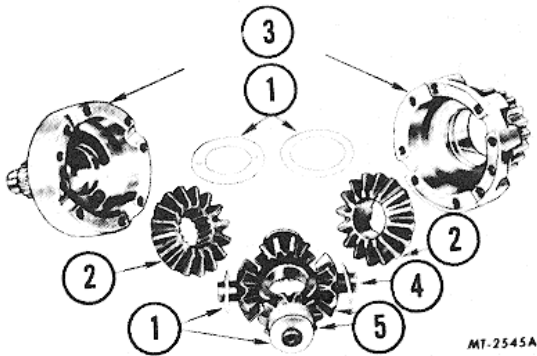

Fig. 10. Components of Inter-Axle Differential
8. Remove diff spider, spider pinion gears, side gears, and thrust washers (Fig. 10).